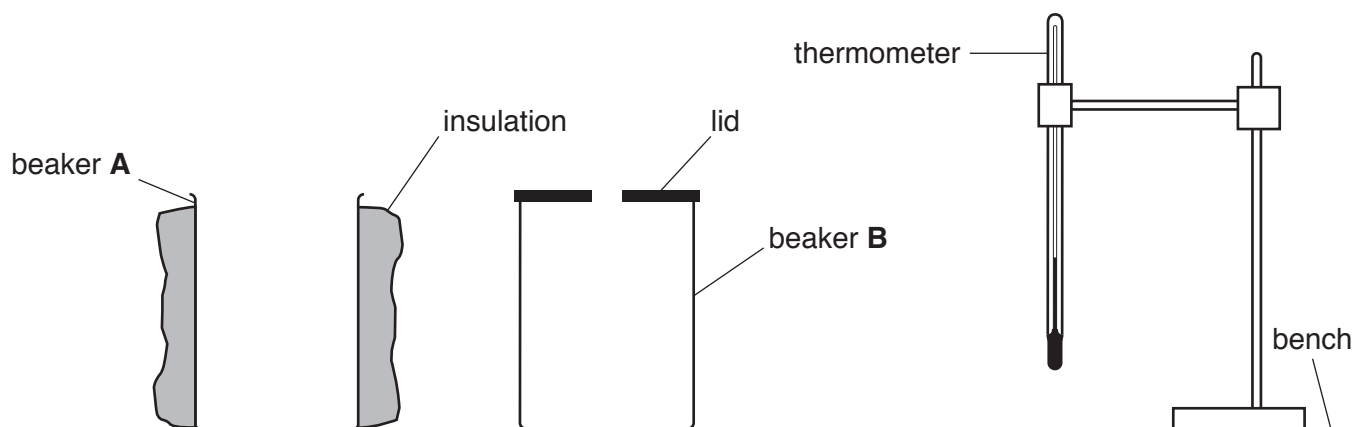

Fig. 2.1
- (iv) Insulation material to cover the sides of beaker **A** as shown in Fig. 2.1.
- (v) Lid for beaker **B** as shown in Fig. 2.1, with a hole for the thermometer. Rigid card or thin wood are suitable.
1. The thermometer, clamp, boss and stand are to be set up for candidates as shown in Fig. 2.1. The thermometer bulb must be well below the 100cm^3 level of the beakers. Candidates must be able easily and safely to read temperatures up to 90°C and to move the thermometer in and out of the beakers.
2. The beakers are to be provided to candidates with the insulation and lid fitted as shown in Fig. 2.1.
Empty the water from the beakers and measuring cylinder. Check that the apparatus is intact and is arranged as in Fig. 2.1.